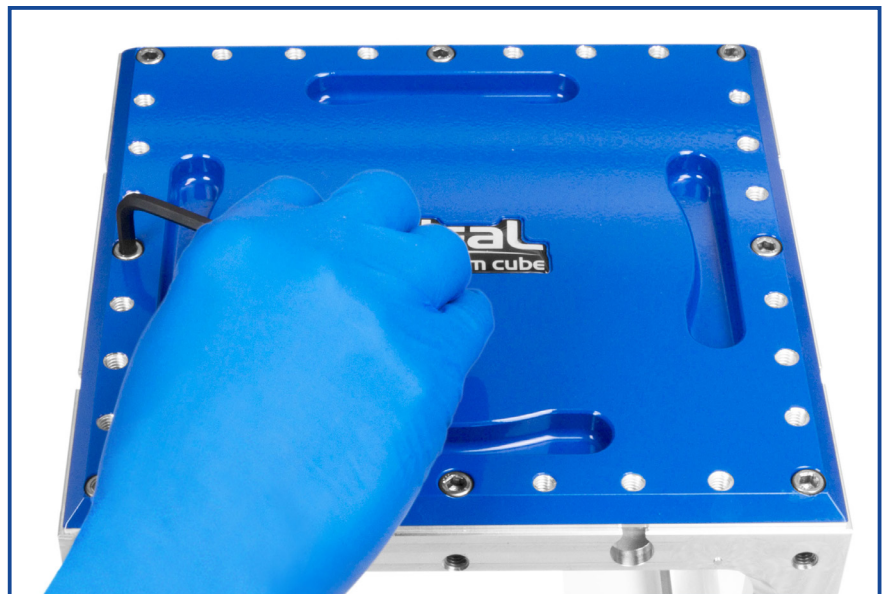

Figure 7 - Begin tightening the bolts
- Figure 7 - Begin tightening the bolts8
5. Use a 3/16" hex wrench to begin tightening the plate bolts (Figure 7).